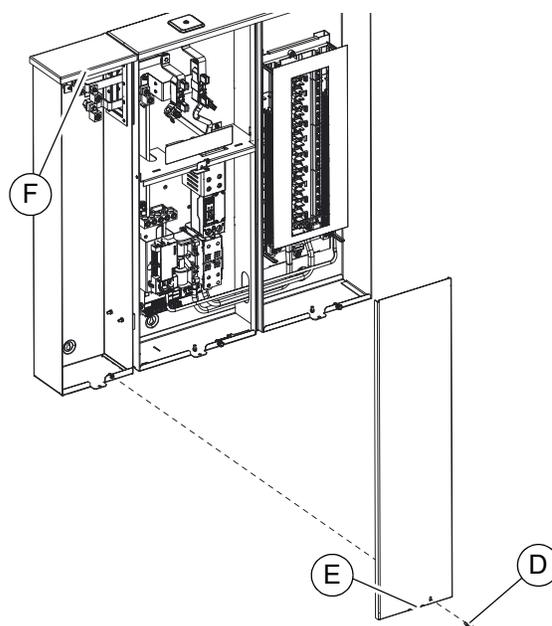

Figure 3-5. Remove Cover (Side Car)
1. See Figure 3-5. Remove thumb screw (D).
2. Slide slot (E) over retention tab.
3. Lower cover until clear of flange (F), and pull away from enclosure.